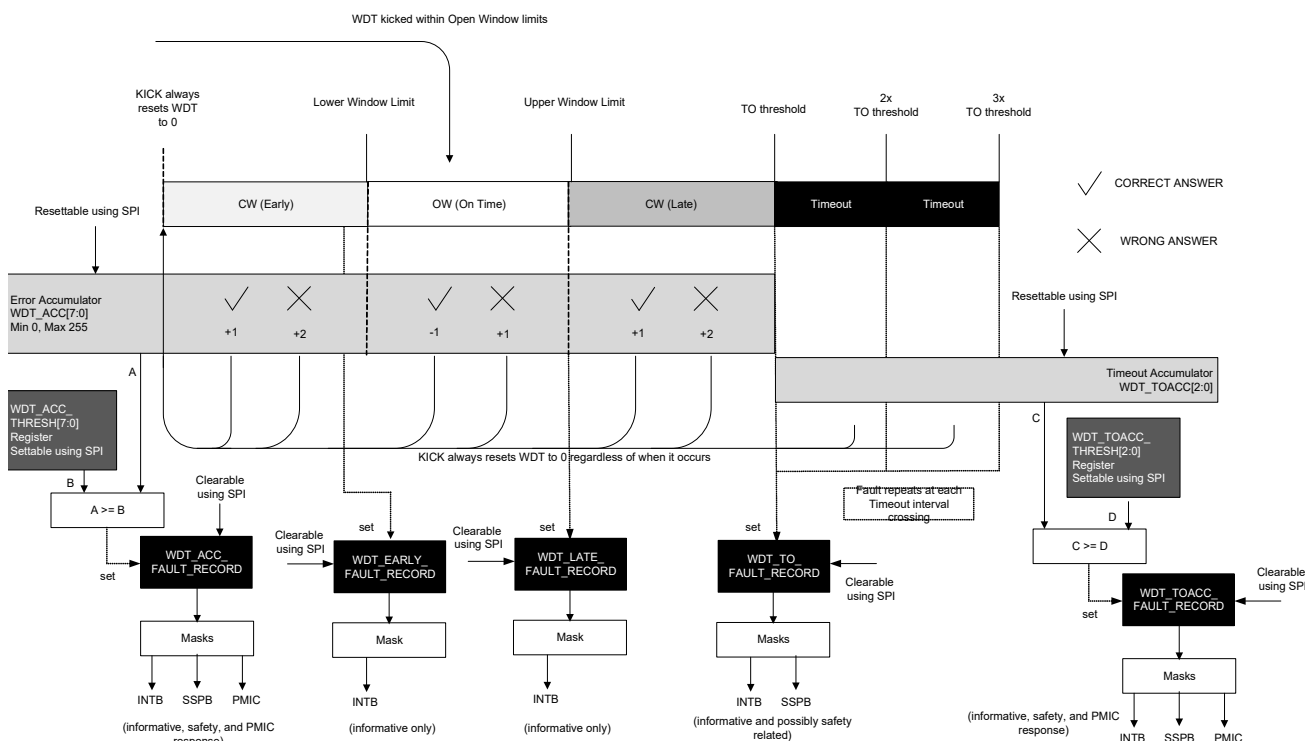

Figure 46. Window, Timeout, and Accumulators
The open window/closed window concept has additional programmability for error accumulation, timeouts, and timeout accumulation. Kick data using SPI can also be qualified through a Question and Answer (QA) mechanism (ASIL-D only). Figure 46 shows how these features relate. CW and OW kicks contribute to the WDT_ACC value to create some fault tolerance based on both timing and correct or wrong answers to a PMIC question. Kicks during the OW decrements the error accumulator, while kicks in a CW increments as shown based on answer correctness. A third limit called a timeout is a detection mechanism if the MCU stops providing kicks. Recorded faults can trigger INTB, SSPB, and PMIC reactions as programmed.